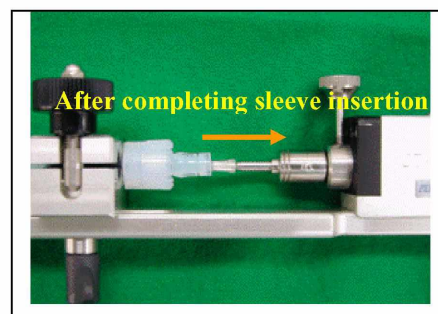

Fig. 36 - Completely inserted sleeve
- When the lever is released, the sleeve holder will move back and the diameter expansion ring will be unlocked. Now the inserted tube can be removed from the sleeve holder (see Fig. 36).